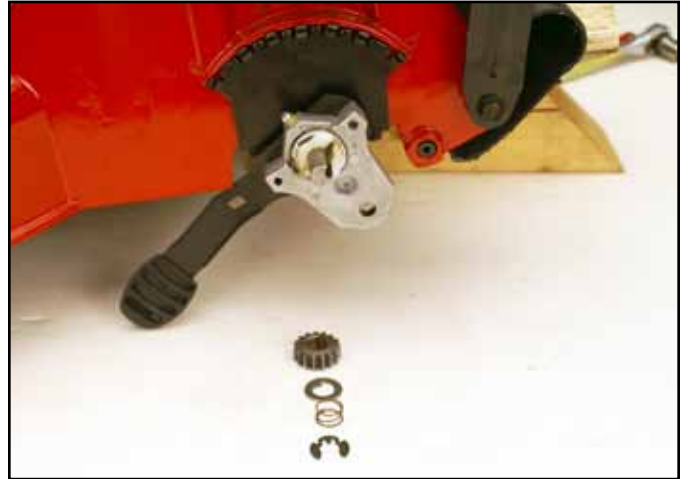

Fig 028
4. Remove retaining ring, spring, thrust washer, and pinion from both axles (Fig. 028). Refer to “Wheel Pinion Clutch” on page 5-3 for additional information about the clutch mechanism.